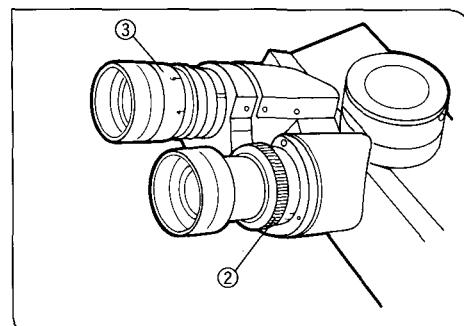

Fig. 68
2. Looking through the right-hand light path's helicoid eyepiece, turn the diopter adjustment ring ② on the eyepiece sleeve until the reticles in the center of the photo mask are seen as two distinct sets of reticles in the field of view. (Figs. 68, 69)